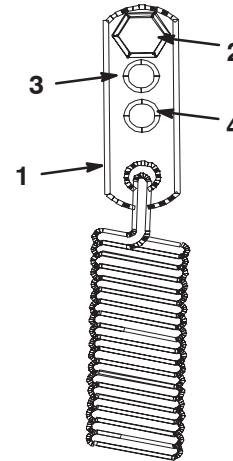

Figure 56
3. For a heavier drive setting, relocate the spring anchor links to either the **medium** or **heavy duty** positions (Fig. 56). The spring anchor links are attached to the upper rear corner of the hydro drive shields on the left and right sides of the machine.